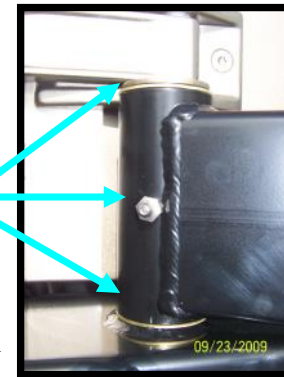

Figure 1
Step 3 – Install the Stainless Steel Grease Fitting using the 7/16” Wrench. The grease fitting has pipe threads which are tapered to obtain a leak free seal. Because of the tapered threads you may not be able to completely screw in the grease fitting. Note: Location of fitting might vary from picture in **Figure 1**.
Step 5 – Insert the Pivot Pin into the bumper tube with the keyed end facing down. The keyed notch on the Pivot Pin will slide into the cutout in the bottom of the bumper tube. Apply a thin layer of quality lithium grease onto the entire shaft of the Pivot Pin after installing into the bumper. Slide one Brass Washer in place. (Refer to Figure 1). Now slide the Tire Carrier Arm over the Pivot Pin. Slide second brass washer in place on top of pivot pin. Then assemble the Stainless Pivot Pin Cap onto top of the Pivot Pin using supplied 5/16" x 1" button head cap screw, flat washer and star washer. Lastly, install the supplied 1/2"-13 x 1" Gr 8 Hex Head Bolt, Lock Washer and Flat Washer up through the bottom of the bumper and thread into the Pivot Pin.